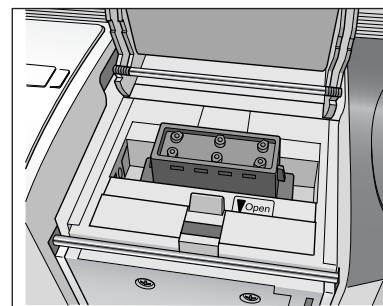

figure 5
- 5 Insert a stamp between the doors so that the teeth in the center of the doors fit into the notches in the center of the stamp (see figure 5). Make sure that the stamp surface lies flat on the printed draft sheet.